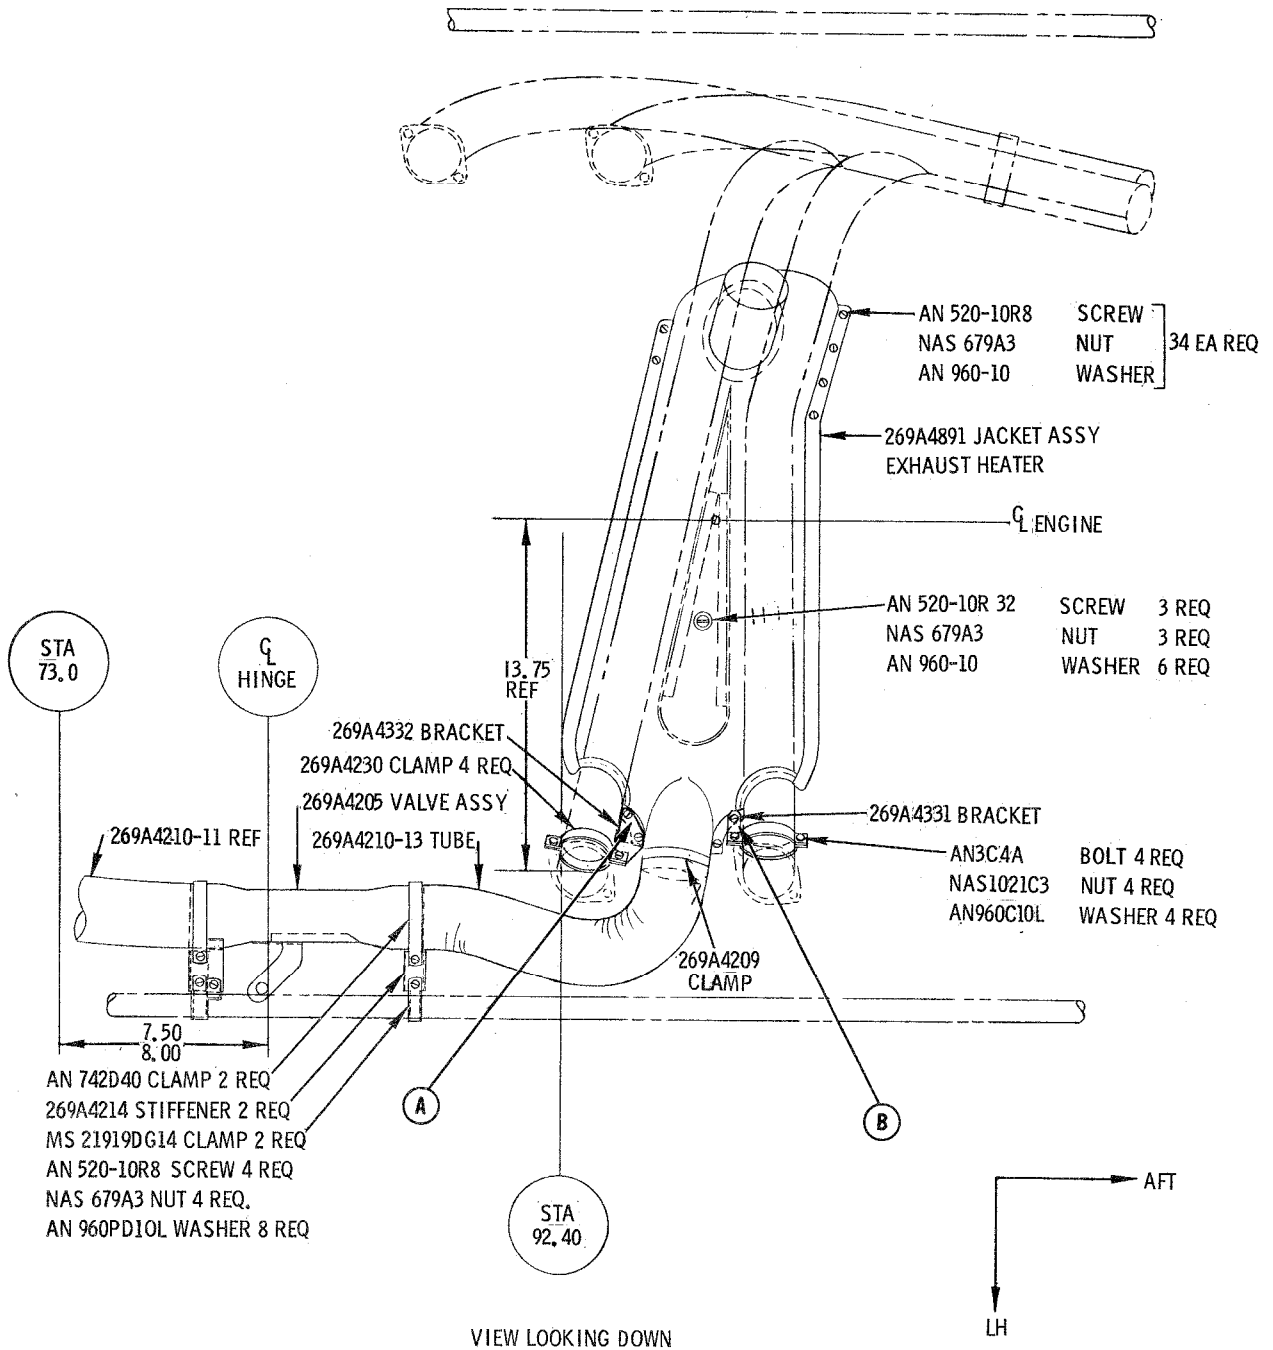

FIGURE 1. 269A4230 SUPPORT CLAMP INSTALLATION - EXHAUST HEATER JACKET
- a. Remove screws, washers and nuts installed in first two holes of heater jacket flange forward side; install 269A4332 bracket using existing hardware. (See Figure 1, Item A)
- b. Remove screw, washer and nut in second hole of heater jacket flange aft side; install 269A4331 bracket using existing hardware. (See Figure 1, Item B)